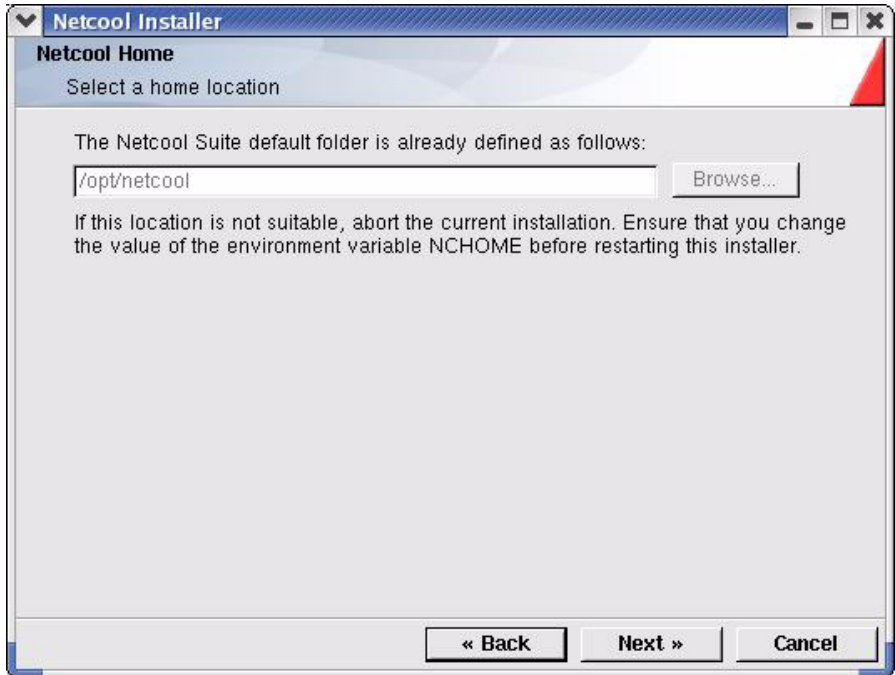

Figure 5. *Netcool Installer Home window*
4. If the `$NCHOME` environment variable has not previously been set, you are prompted for the Netcool home location where Netcool/Precision TN will be installed. The default location is `/opt/netcool` (Figure 5.)